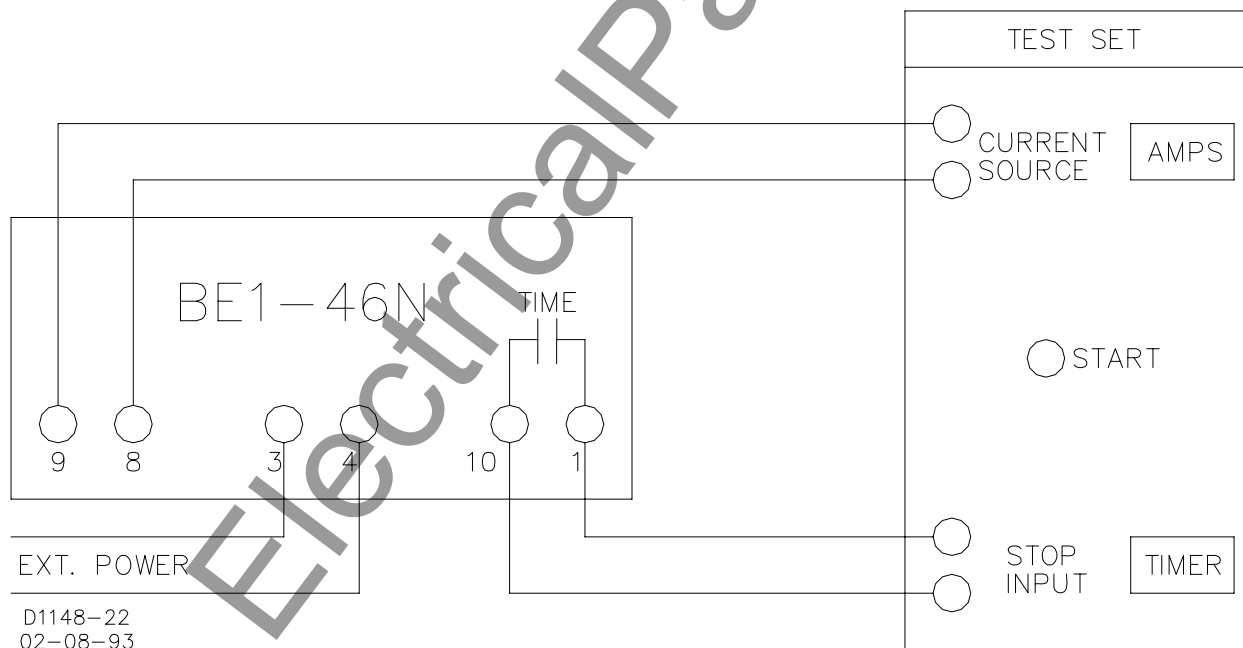

Figure 5-1. Test Setup Diagram
- Step 1. Connect the test circuit as shown in the test setup diagram, Figure 5-1, set TAP ADJUST to A position, and the CAL control fully CW.
Step 1. Connect the test circuit shown in the test setup diagram, Figure 5-1, set the TAP ADJUST switch to A position, and CAL control fully CW.